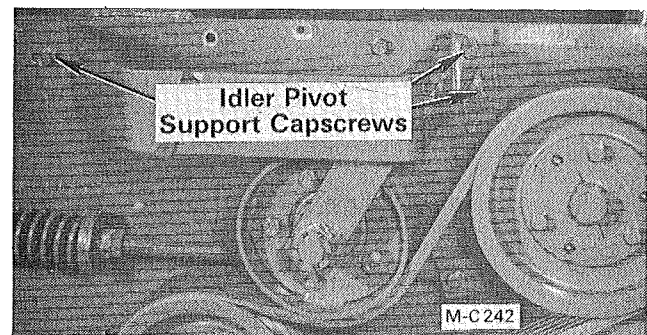
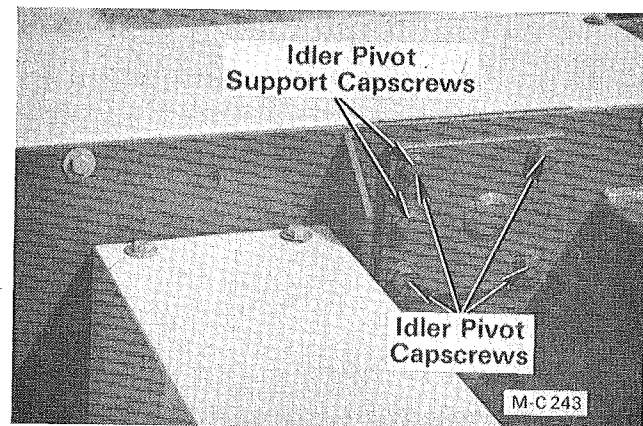

Figure 35 - Idler Push Rod Ass'y. Below S/N 50439
Figure 36
5. Loosen the idler pivot support capscrews, see Figure 35, and the idler pivot capscrews, see Figure 36.